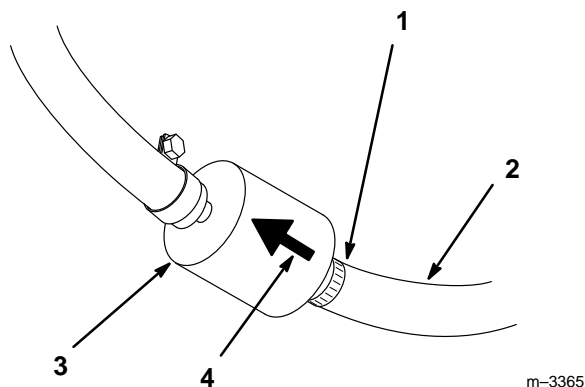

Figure 41
4. Squeeze the ends of the hose clamp together and slide it away from the filter (Fig. 41).